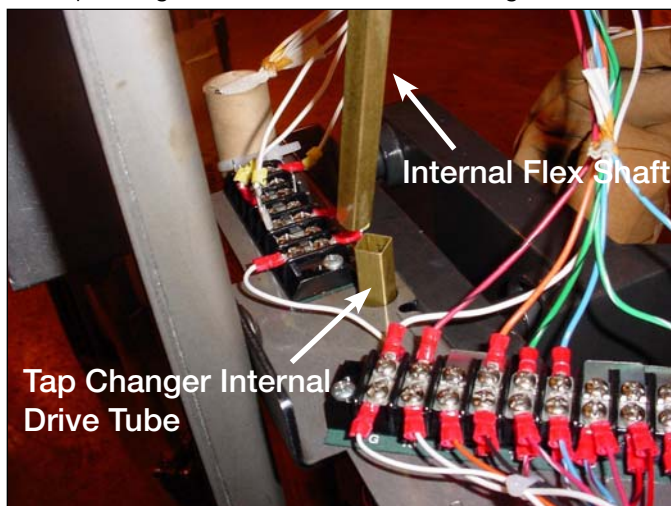

Figure 2.
1. Remove the internal position indicator shaft from the tap changer indicator drive tube. See Figure 2.